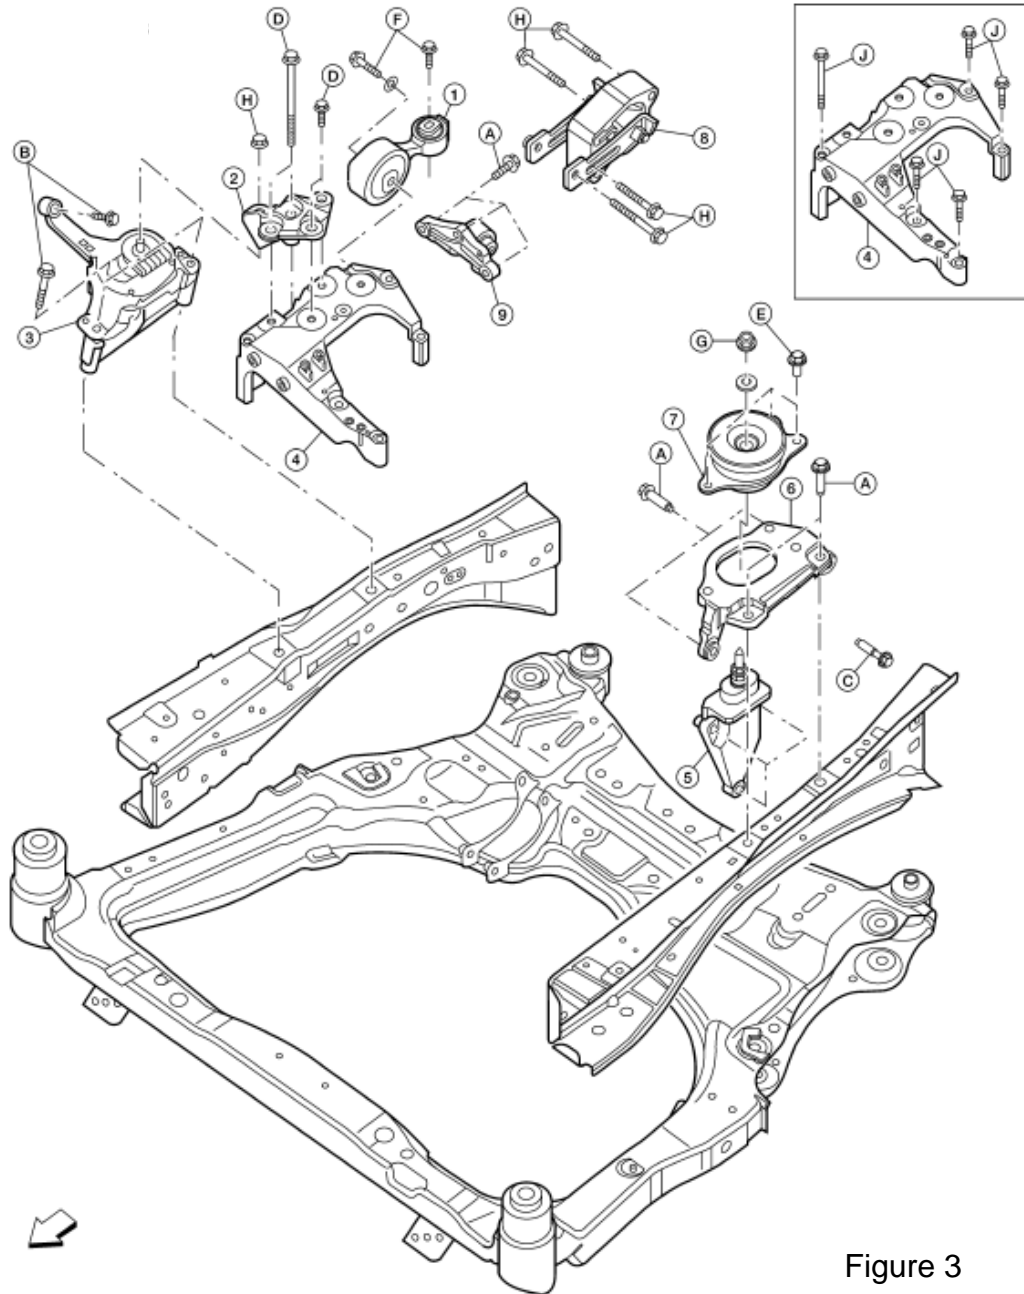

Figure 3
6. Replace the torque rod and the lower torque rod (numbers 1 and 8 in Figure 3).